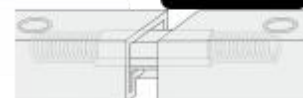

Figure 8-1
Step 9: Adjust the snagger until it connects the two tracks (Figure 8-1).